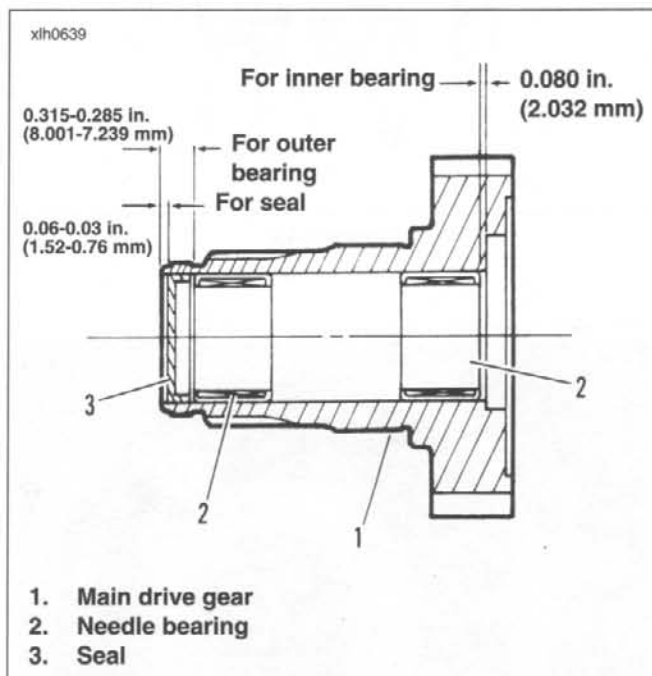
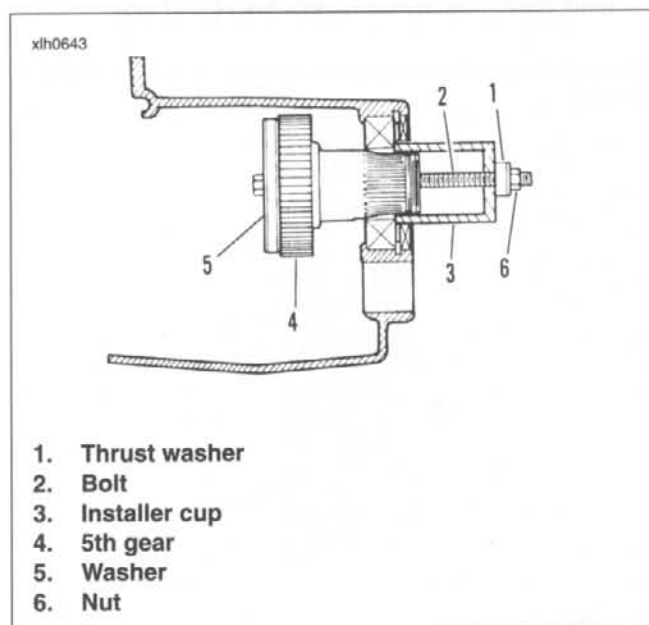

Figure 6-51. Main Drive Gear Assembly
Figure 6-55. Main Drive Gear Installation
2. See Figure 6-51. From inside case tap out seal (3) at end of mainshaft 5th gear (1). Discard seal (3).
2. See Figure 6-55. Use MAIN DRIVE GEAR REMOVER AND INSTALLER TOOL for assembly.
- a. Take bolt (2) and place washer (5) followed by main drive gear (4) over end of bolt.
- c. Insert threaded end of bolt (2) through installer cup (3) and thrust washer (1).
- d. Thread nut (6) onto end of bolt (2). Tighten nut (6) until shoulder on gear (4) bottoms against inner race of bearing.
3. See Figure 6-51. Tap in new seal (3) at threaded end of 5th gear.